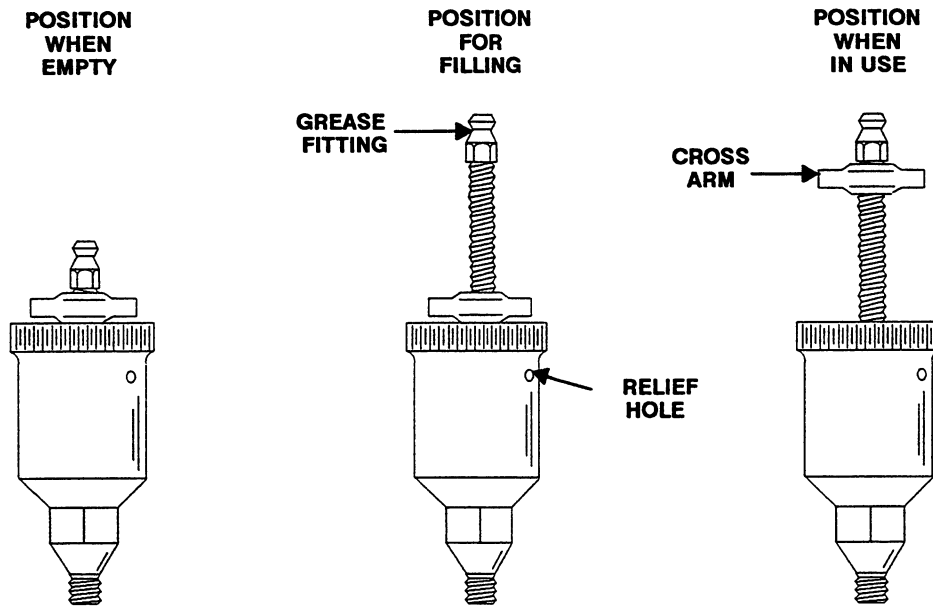

Figure 4. Automatic Lubricating Grease Cup
Fill the grease cup (15) through the grease fitting with No. 2 lithium base grease until grease escapes from the relief hole. Turn the grease cup arm counter-clockwise until it is at the top of the stem; this will release the spring to apply grease to the seal (see Figure 4).